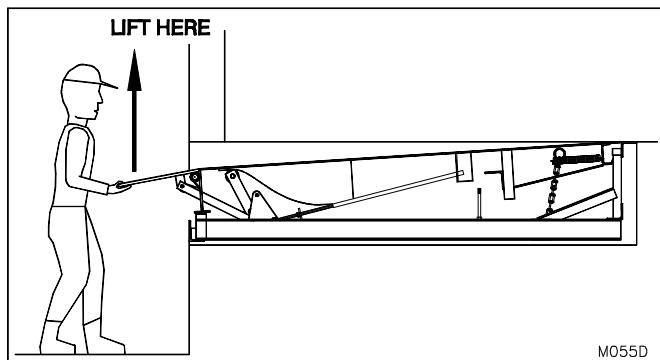
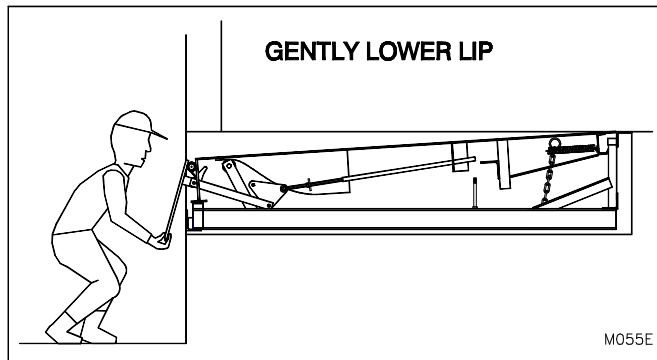

Figure 19: Lift Until Arm Releases
Figure 20: Lower Until Vertical
5. Release the lip from its locked (extended) position. Stand facing the lip end of the dock leveler and firmly grasp the lip with both hands (wear gloves). (See Figure 19: Lift Until Arm Releases on page 14) Lift the lip upwards until you feel the lip lock mechanism release. Gently lower the lip until it hangs vertically. (See Figure 20: Lower Until Vertical on page 14)
7. Repeat this sequence (items 3 through 6) at least three more times.